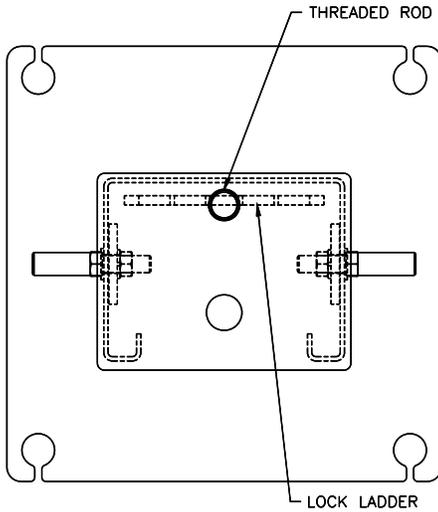

Fig 13 – Locking Ladder Orientation
- 21) Reassembly the lock ladder and top cap to column. Note: the lock ladder is offset from the center of the threaded rod, and orientate per **Fig 13**.